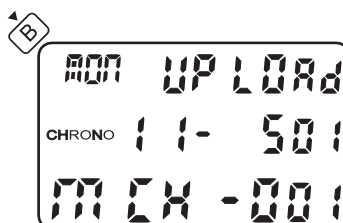

Fig. 23
- Pressing B at the UPLOAD ALL mode will go to the UPLOAD RACE mode with display as shown in Fig.23.